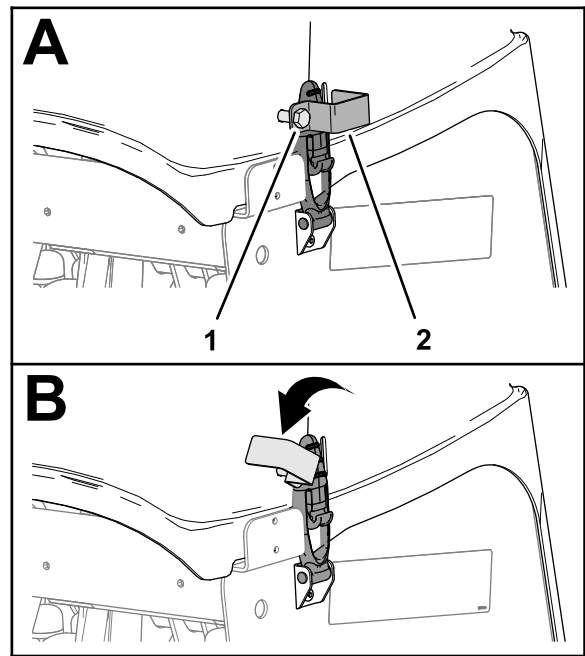

Figure 138
1. If you machine has CE latch locks, loosen the lock-plate bolt until the lock plate clears the slot in the side of the coring-head cover (Figure 138).
2. Rotate the lock plate to clear the latch (Figure 138).